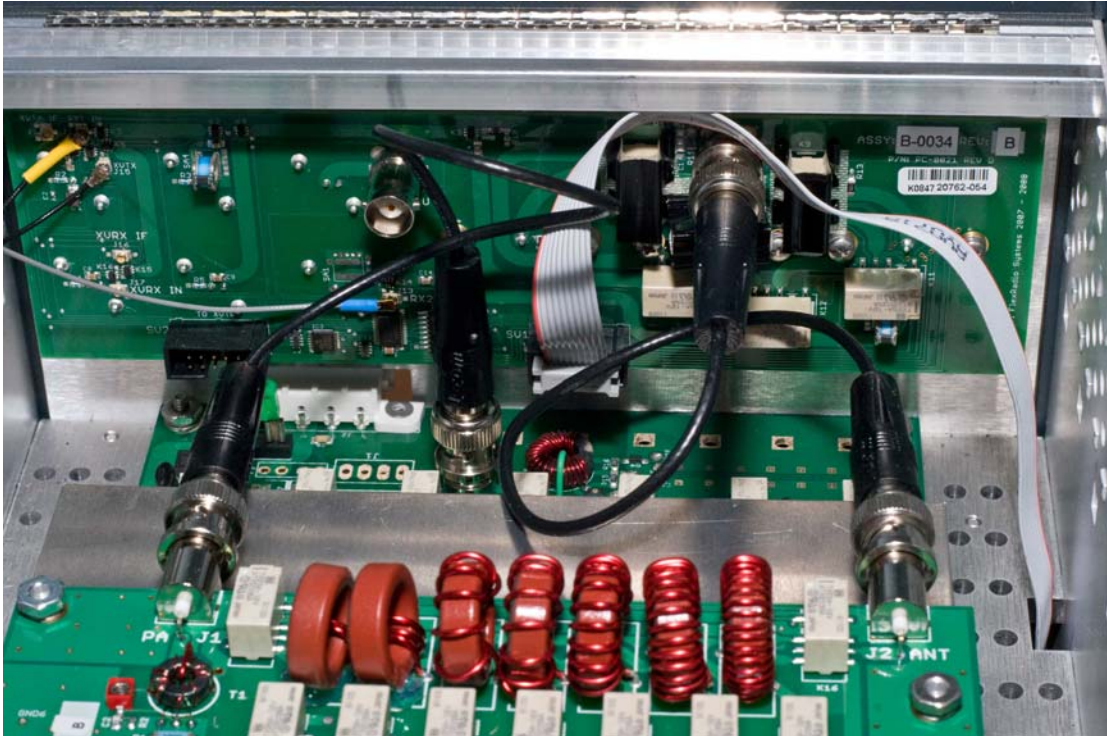

Figure 7 - Routing of BNC cables between PA, ATU, and I/O panel
Step 15. Remove the mini coax cable from the RFIO BNC connector referenced in step 14 and connect it to the BNC connector on the ATU board labeled "PA J1". (See Figure 7)
Step 16. Connect one end of the supplied BNC mini coax cable to the BNC connector on the ATU labeled “J2 ANT” and the other end to the BNC connector labeled “J4 PA/ATU” on the RFIO board mounted on the rear panel of the radio. (See Figure 7)
Step 17. Confirm that your connections between the BNC connectors on the PA, ATU, and RFIO panel are routed as shown in Figure 7.